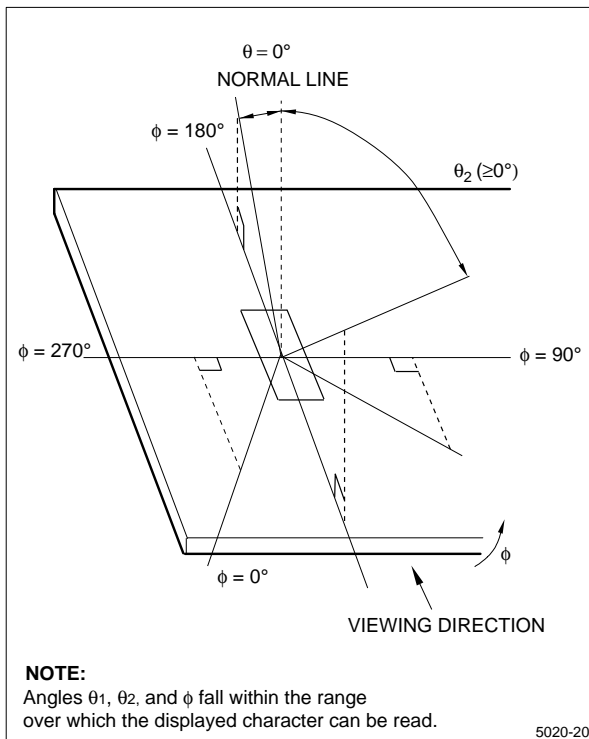

Figure 21. Definition of Viewing Angle
- The viewing angle range is defined as shown in Figure 21.